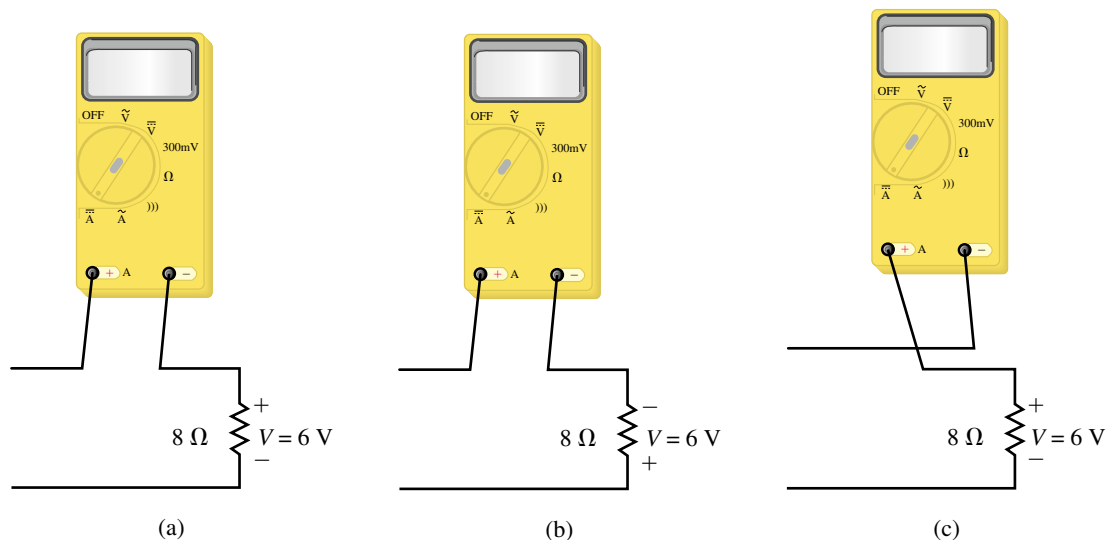

FIGURE 4-37
26. The ammeters of Figure 4-37 have autopolarity. Determine their readings, magnitude, and polarity.